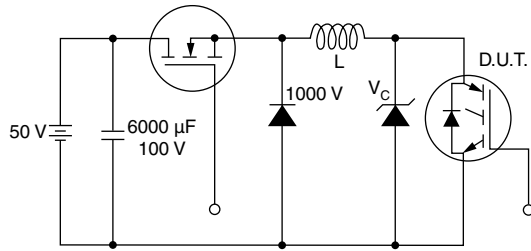

Fig. 19 - Clamped Inductive Load Test Circuit
(2)  $V_{CC} = 80\% (V_{CES})$ ,  $V_{GE} = 20\text{ V}$ ,  $L = 10\text{ }\mu\text{H}$ ,  $R_G = 10\text{ }\Omega$  (see fig. 19)